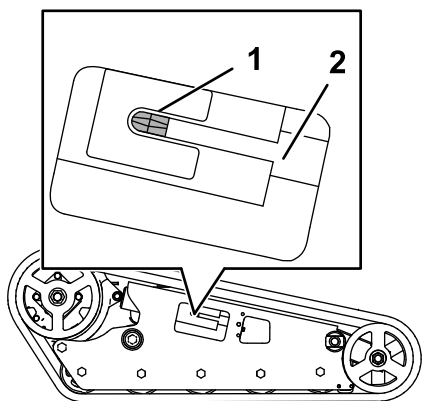

Figure 59
13. Using a 1/2 inch drive ratchet, turn the tensioning screw counter-clockwise until the tensioning screw bottoms out (Figure 59).
21. Verify that the tension block is bottomed out (Figure 59).